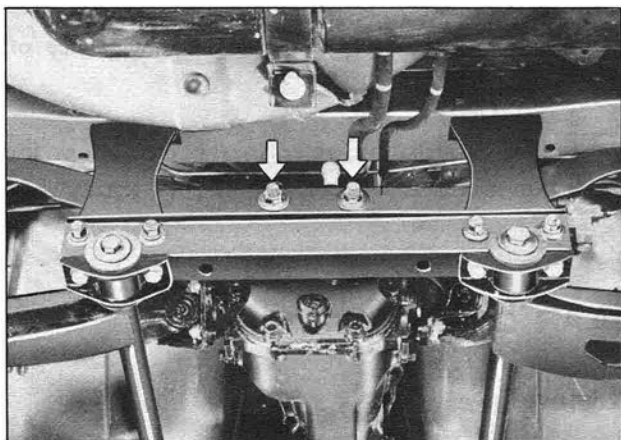

*Fig. RA-18 Separating the drive shaft*
5. Loosen the front side transverse link inner bolt (1). (Figure RA-18)
6. Remove the drive shaft installation bolt (gear carrier side) (2), and separate the drive shaft from the gear carrier.